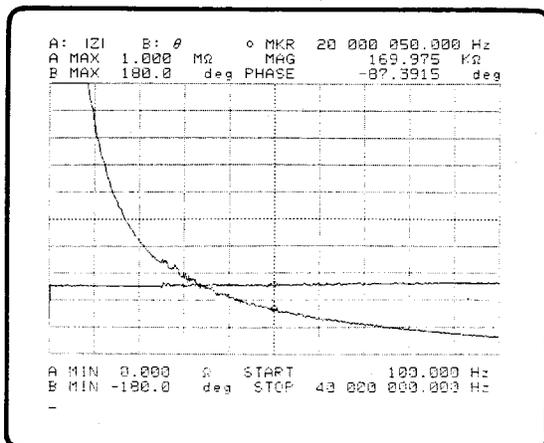

Figure 3-2. Power on Default Screen
8. The power on default screen should appear as in Figure 3-2.